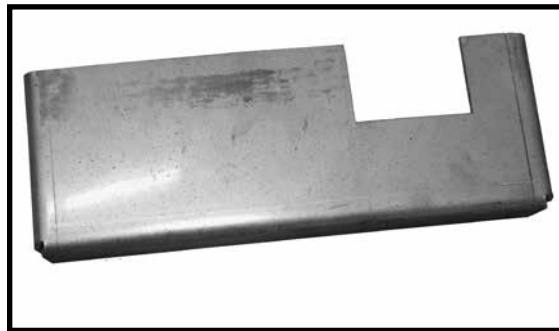

Figure 28: Bottom shield.(Part #80002585)
1. Install the Stainless Steel Bottom shield (Figure 28) over the blister in the bottom of the firebox, as shown in Figure 29